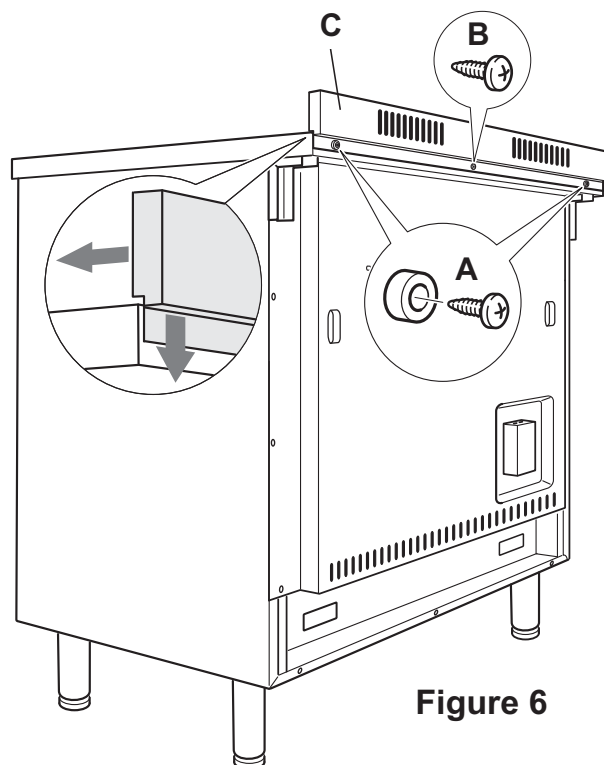

Figure 6
Before installing the cooker, assemble the backguard “C” (fig. 6).
- Assemble the backguard as shown in figure 6 and fix it by screwing the central screw “B” and the spacers “A”.